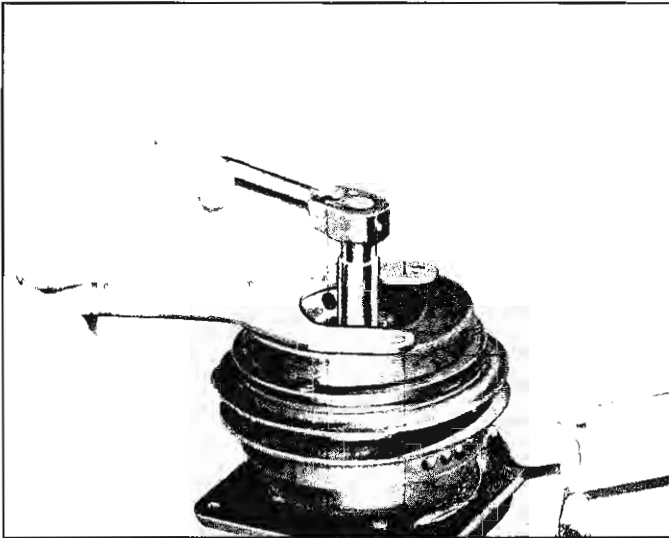

Fig. 13—Removing Shaft Locknut
2. Using drive plate holding Tool J-9403 and socket J-9399, remove the locknut from the shaft (fig. 13). Discard locknut.